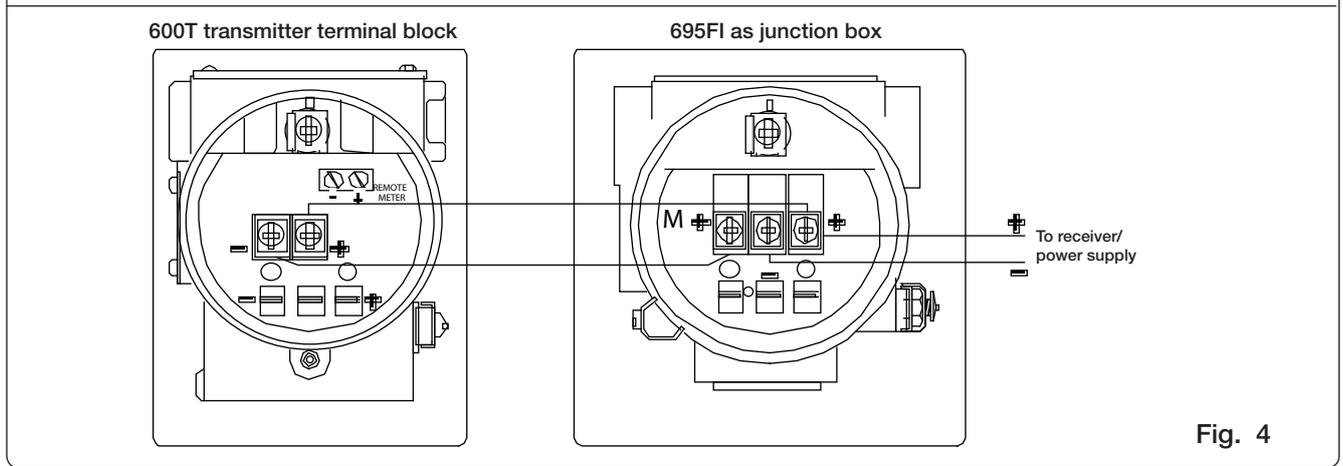

Fig. 4
- 2) Junction box, i.e. inserted in any point of the 4 to 20 mA line connecting the transmitter to its receiver/power supply (fig. 4).
In any cases the line resistance to the field indicator connection should not exceed 15 ohm. This limitation does not apply to the scheme in Fig. 4.